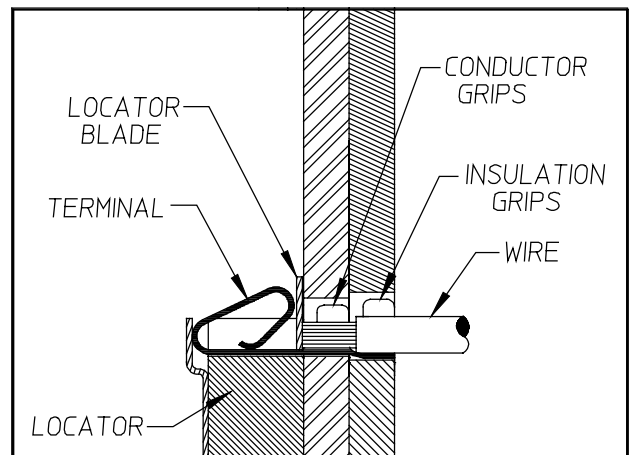

Figure 2
3. Place a wire into the terminal and up against the locator blade, (See Figure 2). On tools without locators line the wire up with the conductor and insulation grips visually.